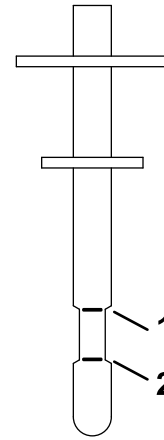

Figure 4
7. Place the dipstick into the filler neck, remove it, and check the fluid level (Figure 4).